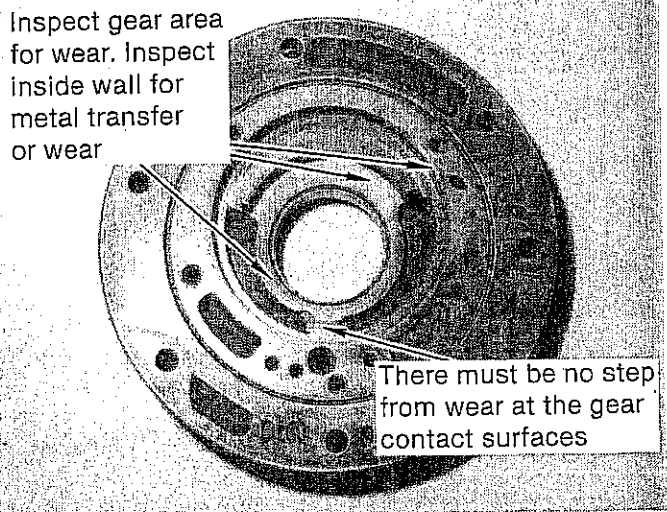
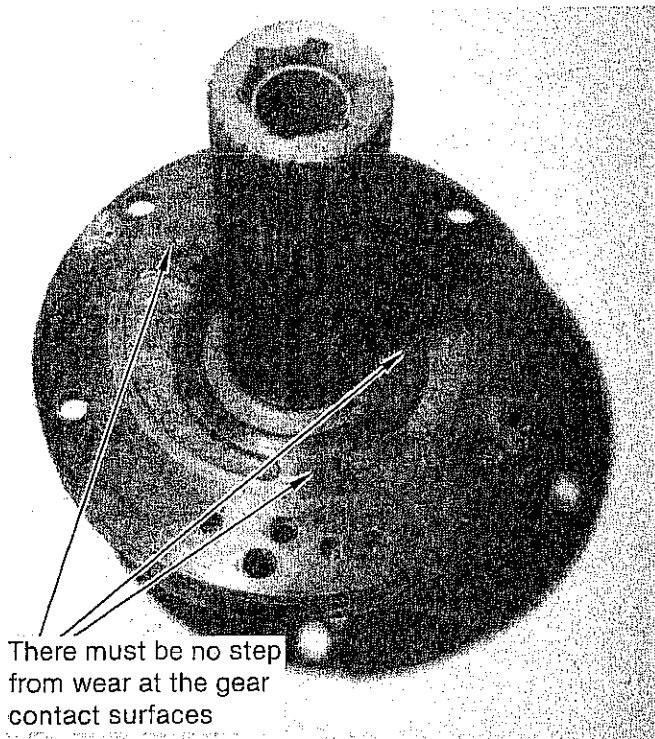
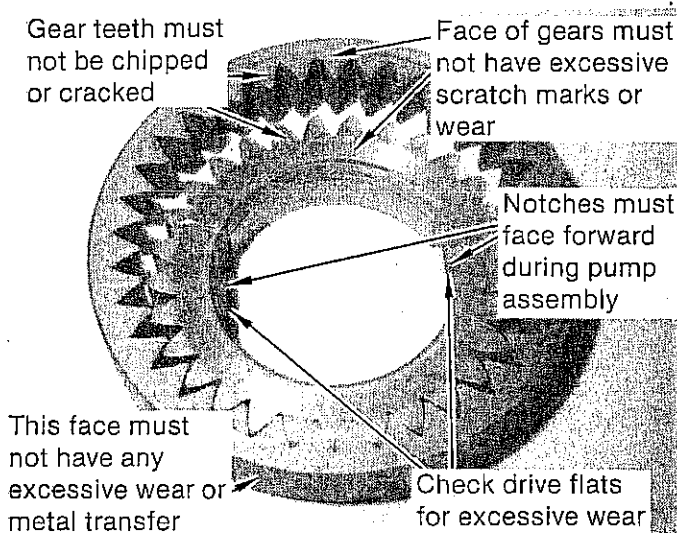

FIGURE 42
FIGURE 43
FIGURE 44
STEP 1. Inspect oil pump housing for damage. The area where the pump gears ride should have no excessive wear. (See Fig. 42) Some scratch marks are normal. The gear face of the stator support should have no step at any point where the gears ride. (See Fig. 43) The gears themselves should have clean faces and the outer edge of the large gear should show no metal transfer or wear. (See Fig. 44)
STEP 4. Lubricate the pump housing and gears with transmission fluid and install the gears into the pump housing. The drive gear must be installed with the engagement notches towards the front of the pump or the converter will damage the gear. (See Fig. 44)